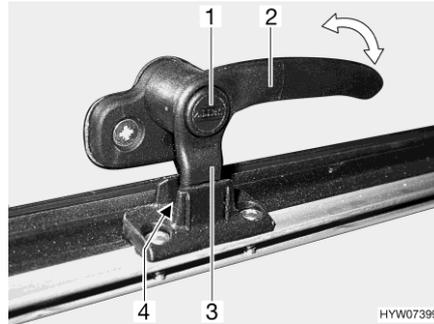
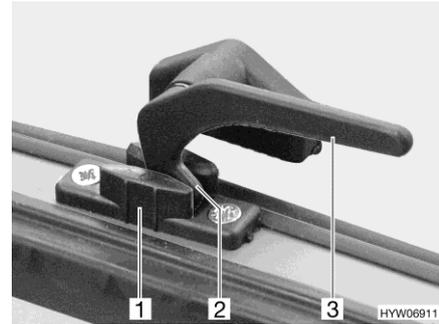

Fig. 116 Catch lever with safety knob in "continuous ventilation" position
Fig. 117 Catch lever in "continuous ventilation" position
- "Continuous ventilation" (Fig. 116 and Fig. 117)
- Press and hold the security button (Fig. 116,1), if present.
- Turn all catch levers (Fig. 116,2 or Fig. 117,3) a quarter turn towards the centre of the skylight.
- Return all catch levers to their initial position. The locking catch (Fig. 116,3 or Fig. 117,2) has to be moved into the recess of the skylight lock (Fig. 116,4 or Fig. 117,1).